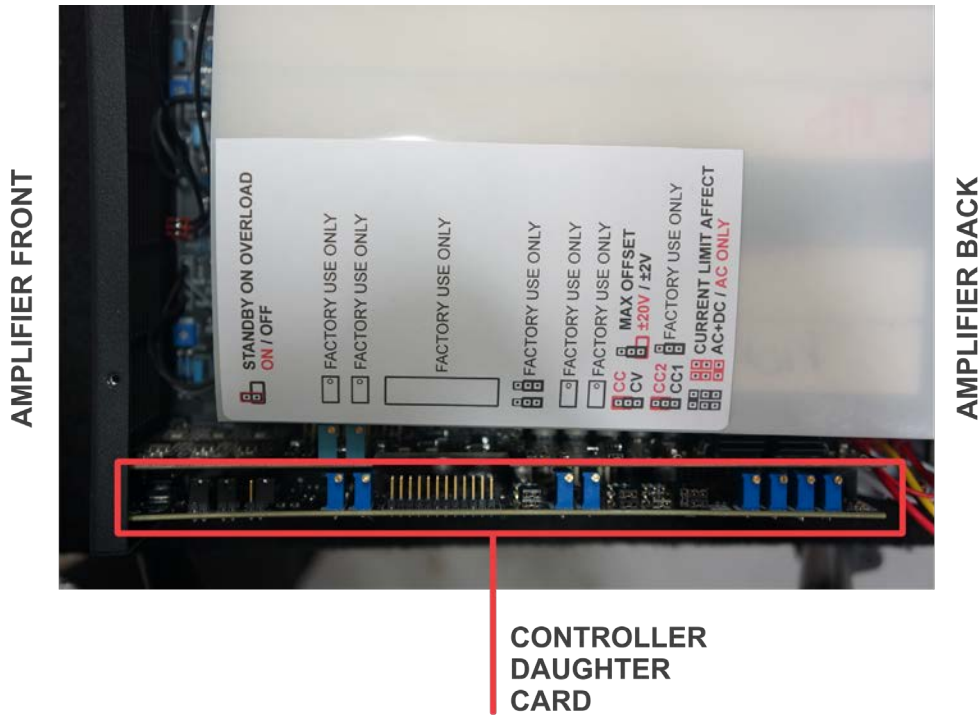

Figure 5.3 – 7100-Series Controller Board Location
4. Locate the 7100 Controller card as shown in **Figure 5.3**.
Refer to the label found inside the amplifier and next to the Controller board for jumper locations (see **Figure 5.3**).